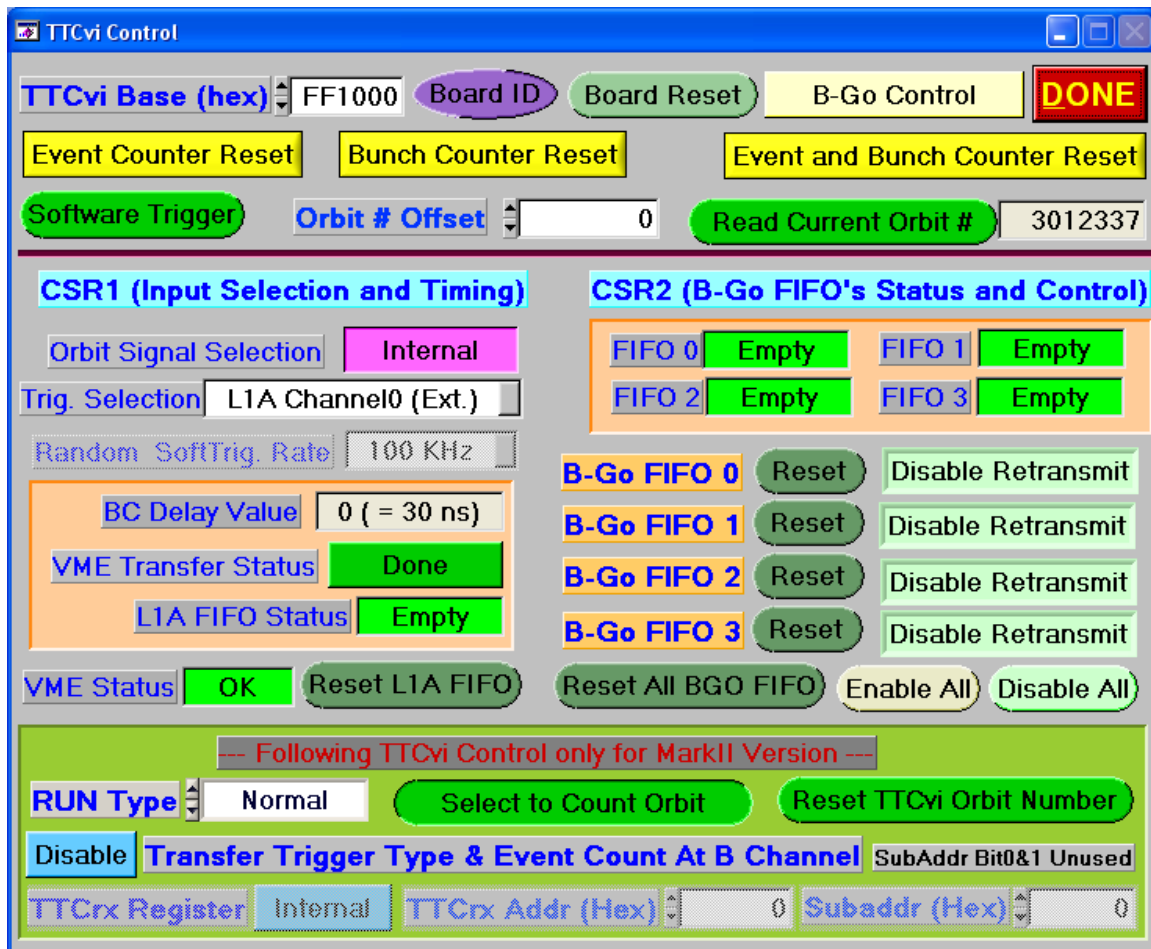

Figure 12. The TTCvi Status and Control Window
- Enable all **TTCvi** pull-down menu and bring up TTCvi Status and Control window as shown in Figure 12.
Figure 12 is the TTCvi Status and Control panel, where the TTCvi status are displayed, such as VME Status, BC Delay Value, L1A FIFO Status and B-GO FIFO Status etc.. And user will be able to control TTCvi through this panel. The most common used commands will be: